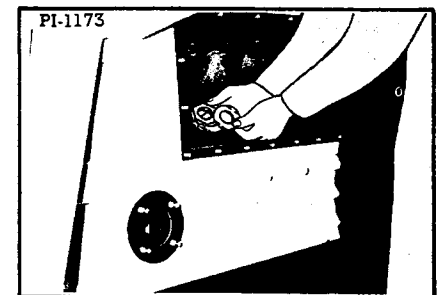

Fig. 73 Remove Nut & Washer
14. Remove the sprocket holding nut and flat locking washer from the gearcase (Figure 73).